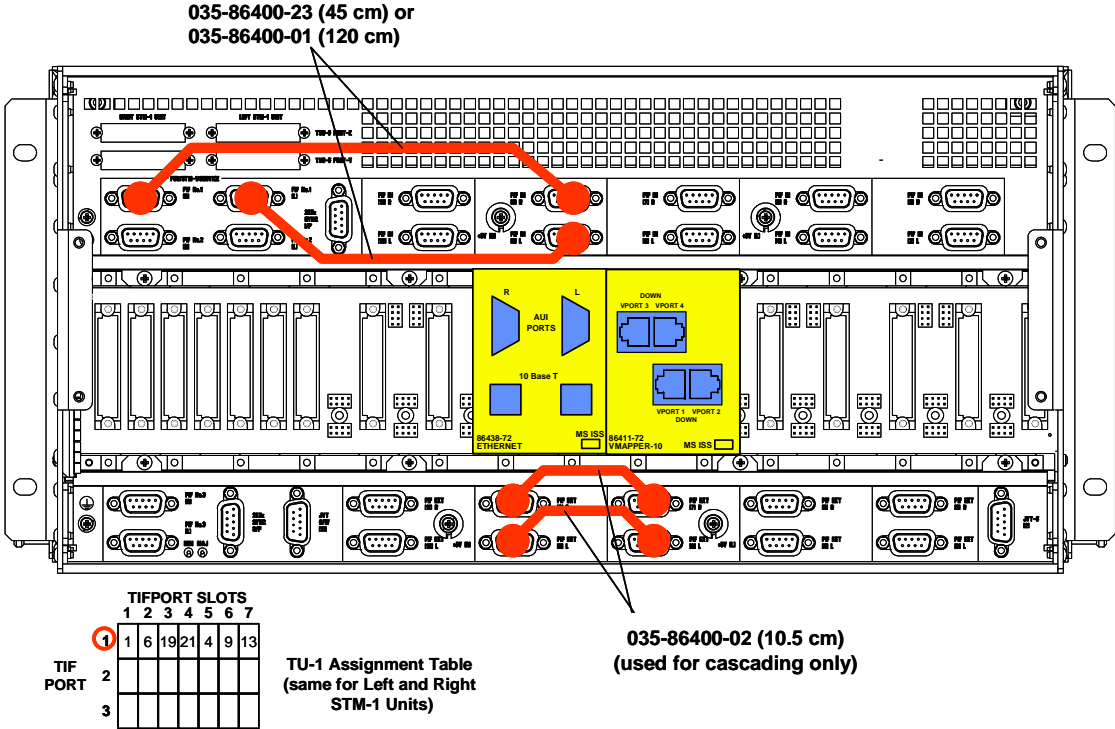

Figure 7: Example of TU-1s dropped on a TIFport not fully utilized (ring application)
The VMapper-10 unit could be installed on the same TIFport that is used by a CMUX or Ethernet unit (provided that not all 7 slots are used on the TIFport). The cascaded units are installed in adjacent shelf slot positions. A 4-inch (10.5 cm) 035-86400-02 cable is used to interconnect the cascaded units (Figure 7).
4. Install the VMapper-10 unit paddleboard in the shelf slots adjacent to the paddleboard of the (pair of) cascaded unit(s) (see Figure 7; refer to *Shelf Position and Paddleboard Installation*). Ensure that the CBUS Jumper (087-86430-90) is not installed in the backplane underneath nor on either side of the paddleboard.
5. Establish TIFport cable connection between the upper female DB9 connectors located below the cascaded unit paddleboards using cable 087-86400-02 (see Figure 7). Similarly, using another cable of the same type interconnect the lower female DB9 connectors underneath the two paddleboards. (For more information on the shelf connectors and cabling refer to the TN1Ue Equipment Shelf TPIM.)